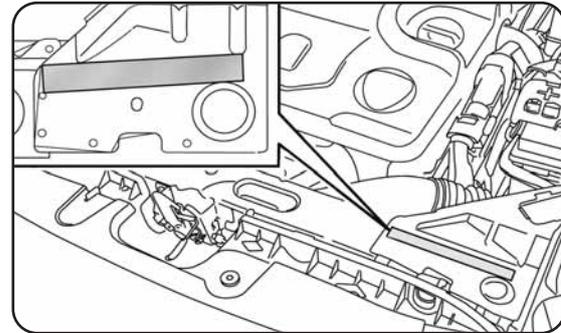

fig. 78
**Before opening the bonnet, make sure the engine is off and the ignition key is in the STOP position. Follow the instructions on the dedicated label on the front crossmember (fig. 78). It is advisable to extract the key when there are other people in the vehicle. Exit from the vehicle only after having removed the ignition key or having rotated it to the STOP position. During refuelling, make sure the vehicle has been stopped and the key is in STOP position.**